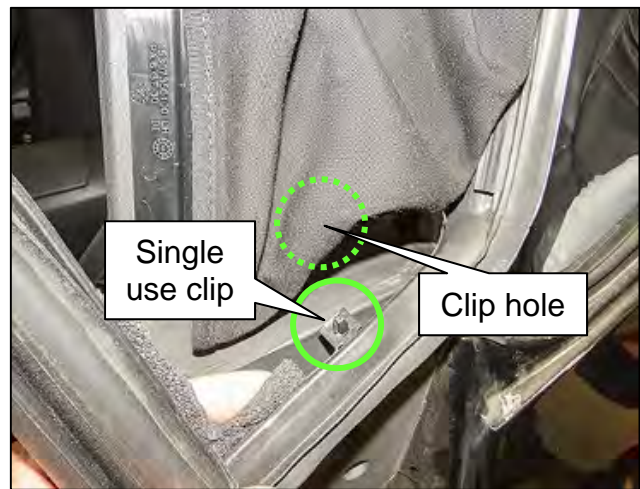

Figure 68
74. Replace the single use clip (CLIP) shown in Figure 68.
- Figure 69 shows the clip hole in the linkage assembly and is viewed looking up (Figure 68).